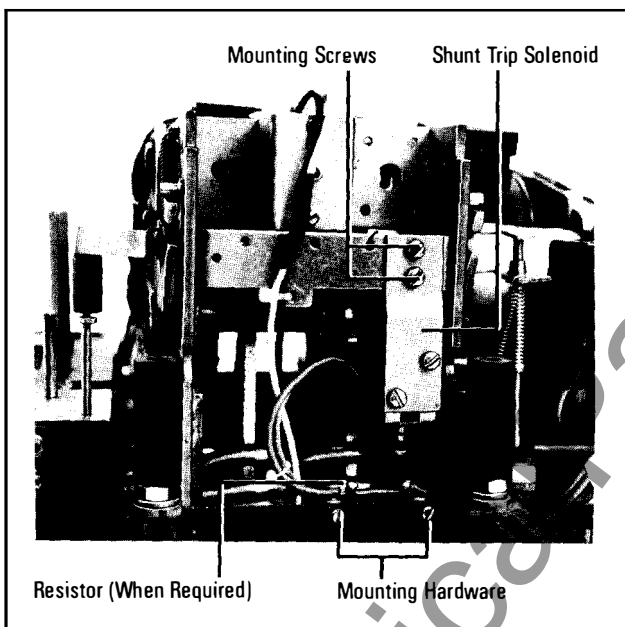

Fig. 4 *Shunt Trip Device and Resistor Installed on a Typical 1600 Amp Breaker*
2. Mount the shunt trip solenoid to the mechanism mounting bracket, as shown in Fig. 4, using two pan head screws (0.138-32 x 0.188) and lockwashers.
3. If a resistor is provided in the kit, (refer to Table 1) attach it to the vertical barrier as shown in Fig. 4, using two pan head screws (0.086-56 x 0.375) and nuts. For the larger frame breakers, mounting provisions are provided on the horizontal center mounting barrier.